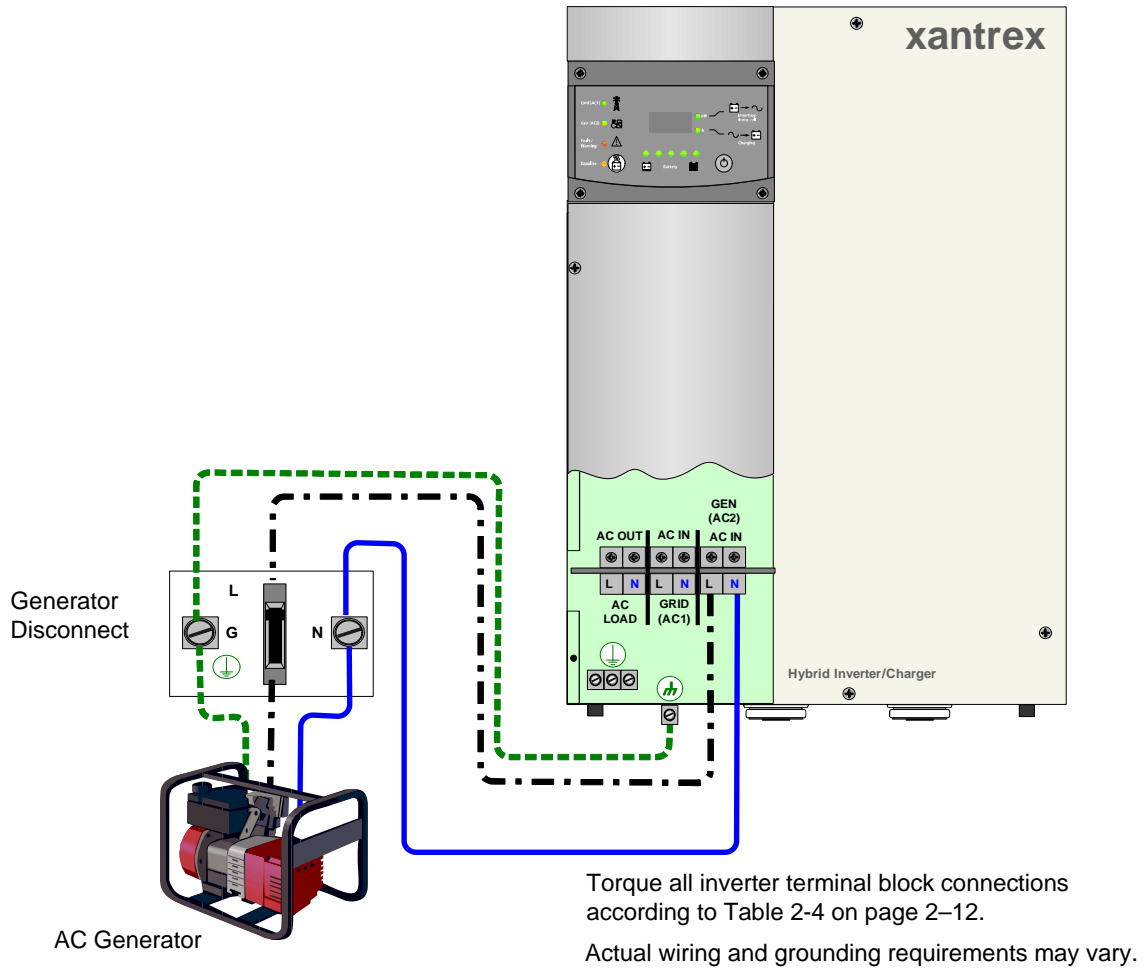

Figure 2-15 Generator Wiring to the Inverter
1. See Figure 2-15. Connect the neutral wire from the generator breaker or disconnect to the inverter GEN (AC2) neutral terminal.